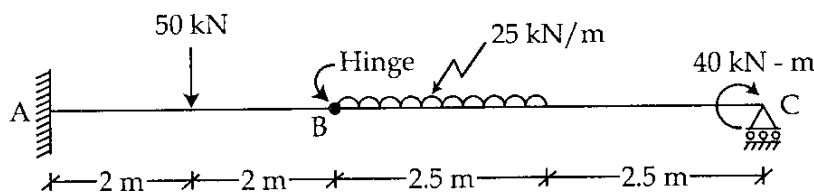

Fig. 1
- (a) Draw the Bending Moment and Shear Force Diagrams for the beam shown in Fig. 1 showing the salient values. 10